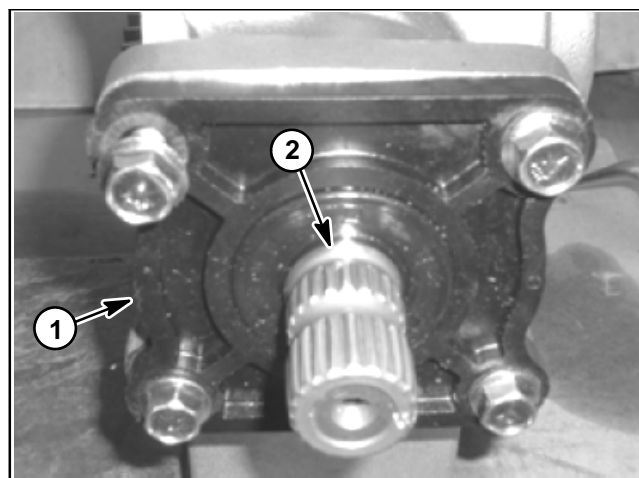

Figure 30
13. Position plug clip to correct location on cover plate and secure cover plate to gear case with five (5) flange head screws. Torque screws from **14 to 17 ft-lbs (19 to 27 N-m)**.
14. Install the pinion shaft and then the input cover (Fig. 30). Secure cover with four (4) flange head screws. Torque screws from **14 to 17 ft-lbs (19 to 27 N-m)**.